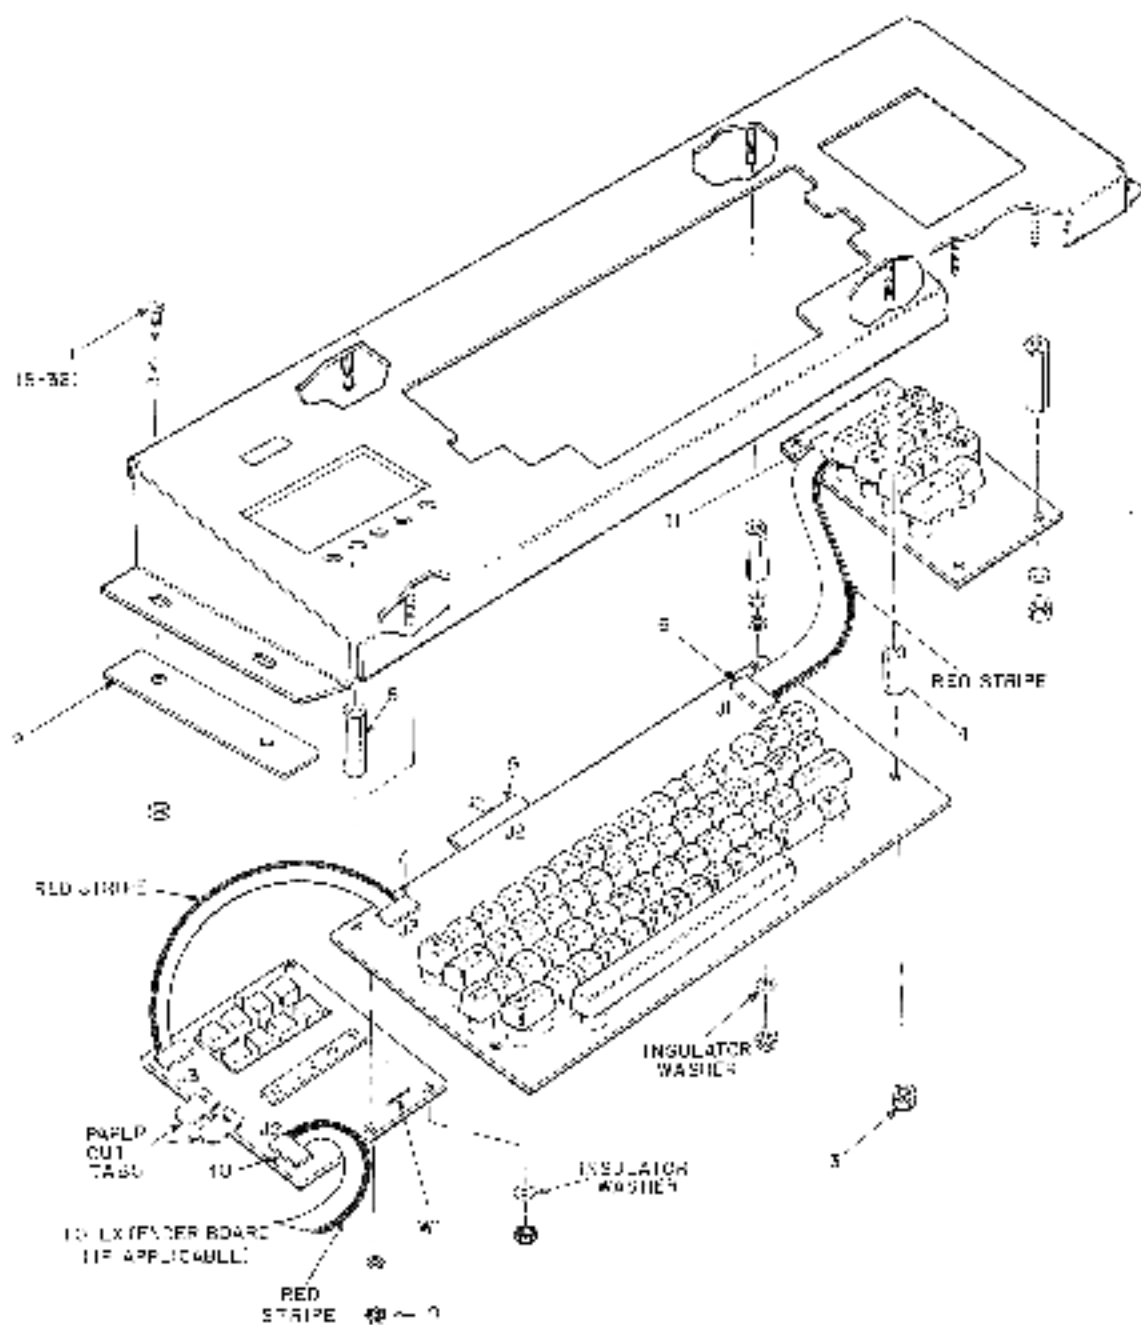

Figure 7-5 Keyboard and Rezel Assembly - Cabling and Hardware
A Phillips head screwdriver and an 11/32-inch nut driver are the only tools required for installation. Use Figure 7-5 and the following procedure as installation guides.
2. Refer to Figure 7-5. Remove the four screws, lock washers, flat washers (item 1 in Figure 7-5), and spacers (item 2) that secure the keyboard bezel to the cabinet base.
3. Turn the keyboard upside down on a piece of foam or bubble plastic and remove the four key nuts (item 3) that secure the keyboard to the bezel. Remove the four key nuts (item 9) that secure the control panel to the bezel.
4. Remove all eight standoffs from the old bezel and attach them, with the four standoffs supplied with the kit, on the new bezel as shown in Figure 7-5.
5. Connect one end of the numeric pad cable (item 6) to J1 on the keyboard. Connect the other end to the connector on the numeric pad (item 11). Ensure the red stripe is positioned as shown in Figure 7-5.
The keyboard cable (item 5 in Figure 7-5) must be routed to the inside of the standoff (item 8) and between the bezel and the component side of the keyboard. This prevents possible interference between the cable and print head assembly.